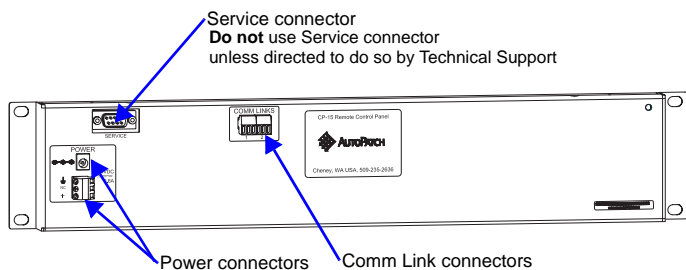

FIG. 2 CP-15 Remote rear view
1. Unplug one of the Comm Link connectors on the CP-15 (see FIG. 2).